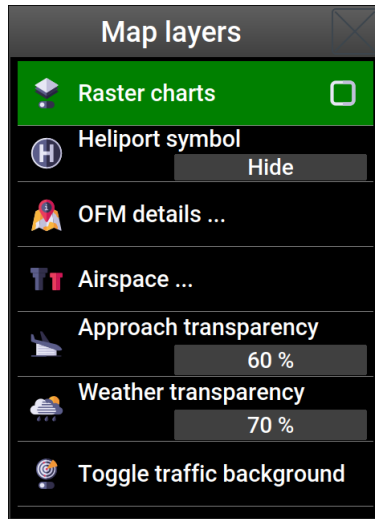

Figure 2.29: The Map layers window.
Certain map layers can be enabled or disabled and some of them can be tuned. Touching the map layers button (Figure 2.24, option ⑤) opens a window shown in Figure 2.29.